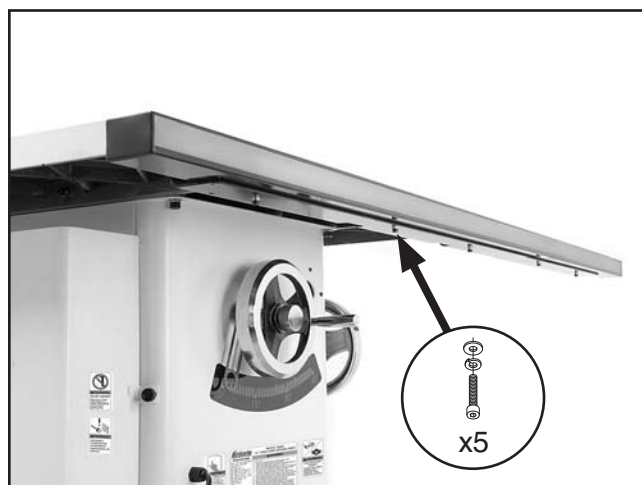

Figure 21. Model G0691 tube attached to front rail.
- G0691 ONLY:** Install the 82" front rail rectangular tube onto the 70" front rail with five M6-1 x 16 cap screws, 6mm lock washers, and 6mm flat washers, as shown in **Figure 21**.